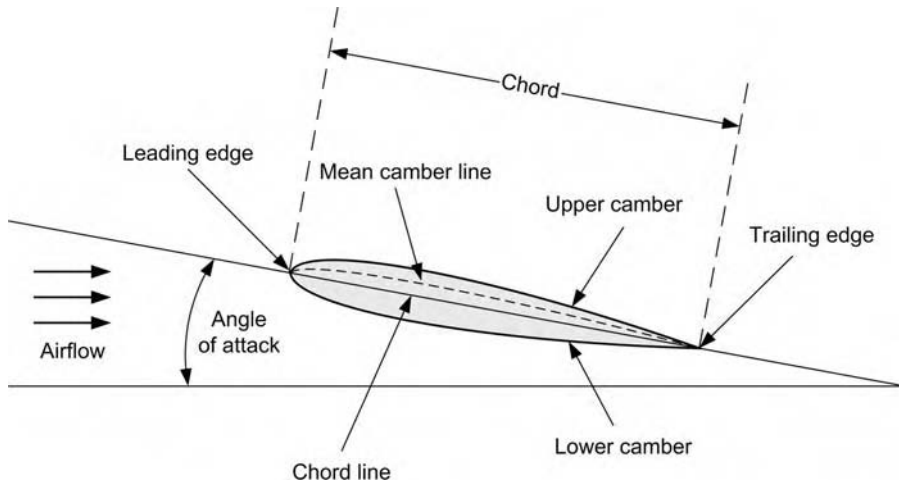

Figure 7.8 Aerofoil terminology.
Leading and trailing edge are those *points on the center of curvature of the leading and trailing part of the aerofoil section that intersect with the chord line* as shown in Figure 7.8
The point on the chord line through which the resultant lift force acts is known as the **center of pressure (CP)**. This was first illustrated in Figure 7.8 and for clarity, the CP through which the *resultant force* or *total reaction* acts is shown in Figure 7.12.